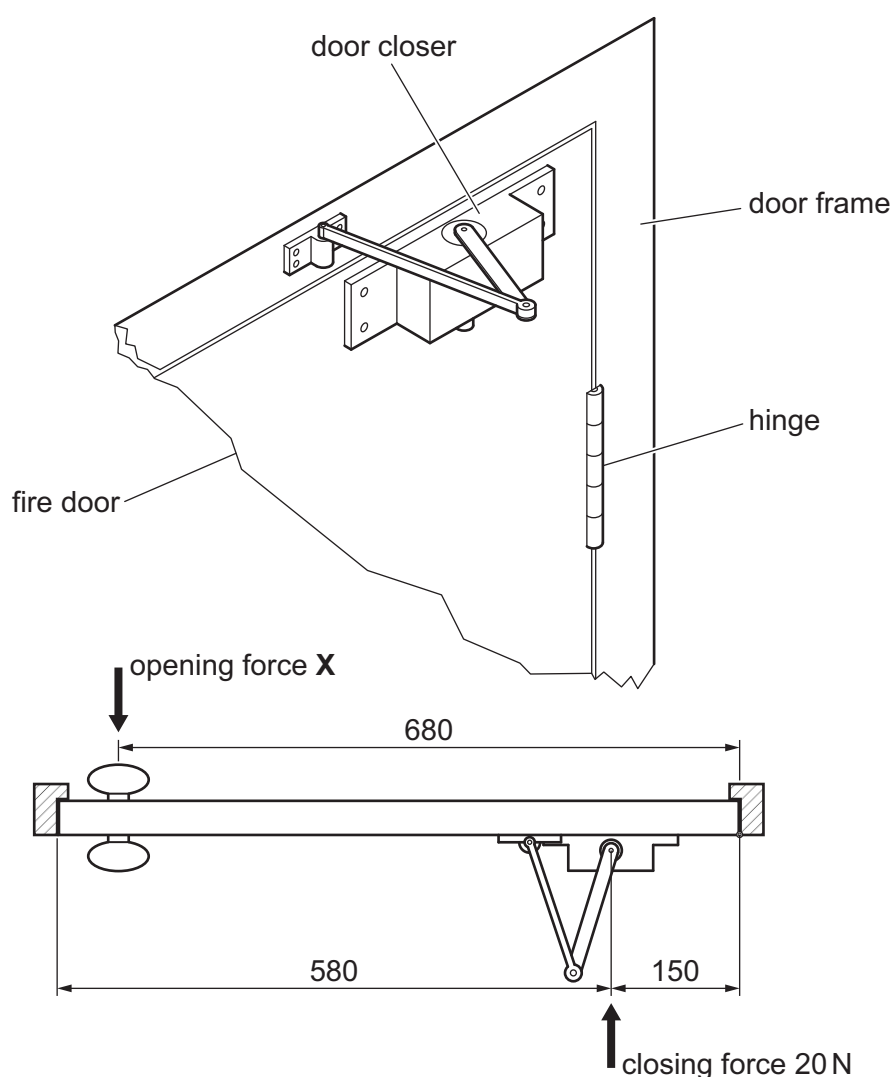

Fig. 9.1
- (iii) Fig. 9.1 shows a fire door in a building that uses a door closer to ensure that the fire door remains closed when not in use.